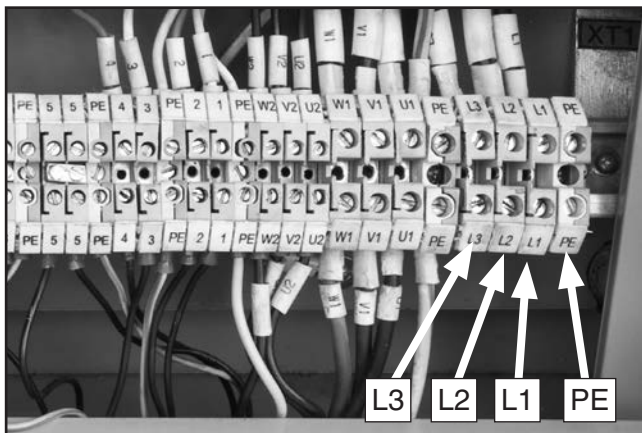

Figure 24. Location to connect incoming hot wires and ground wire.
Note About Phase Converters: *Due to the startup load from this machine, we do not recommend using a static phase converter to create 3-phase power—as it can quickly decrease the life of electrical components on this machine. If you must use a phase converter, only use a rotary phase converter. Only connect the manufactured leg or "wild wire" to the L3 terminal (see location in **Figure 24** on **Page 28**). The L3 terminal can handle power fluctuation because it is wired directly to the motor.*
3. Connect the incoming hot wires to the **L1**, **L2**, and **L3** terminals, shown in **Figure 24**. Connect the incoming ground to the grounding terminal (**PE**).